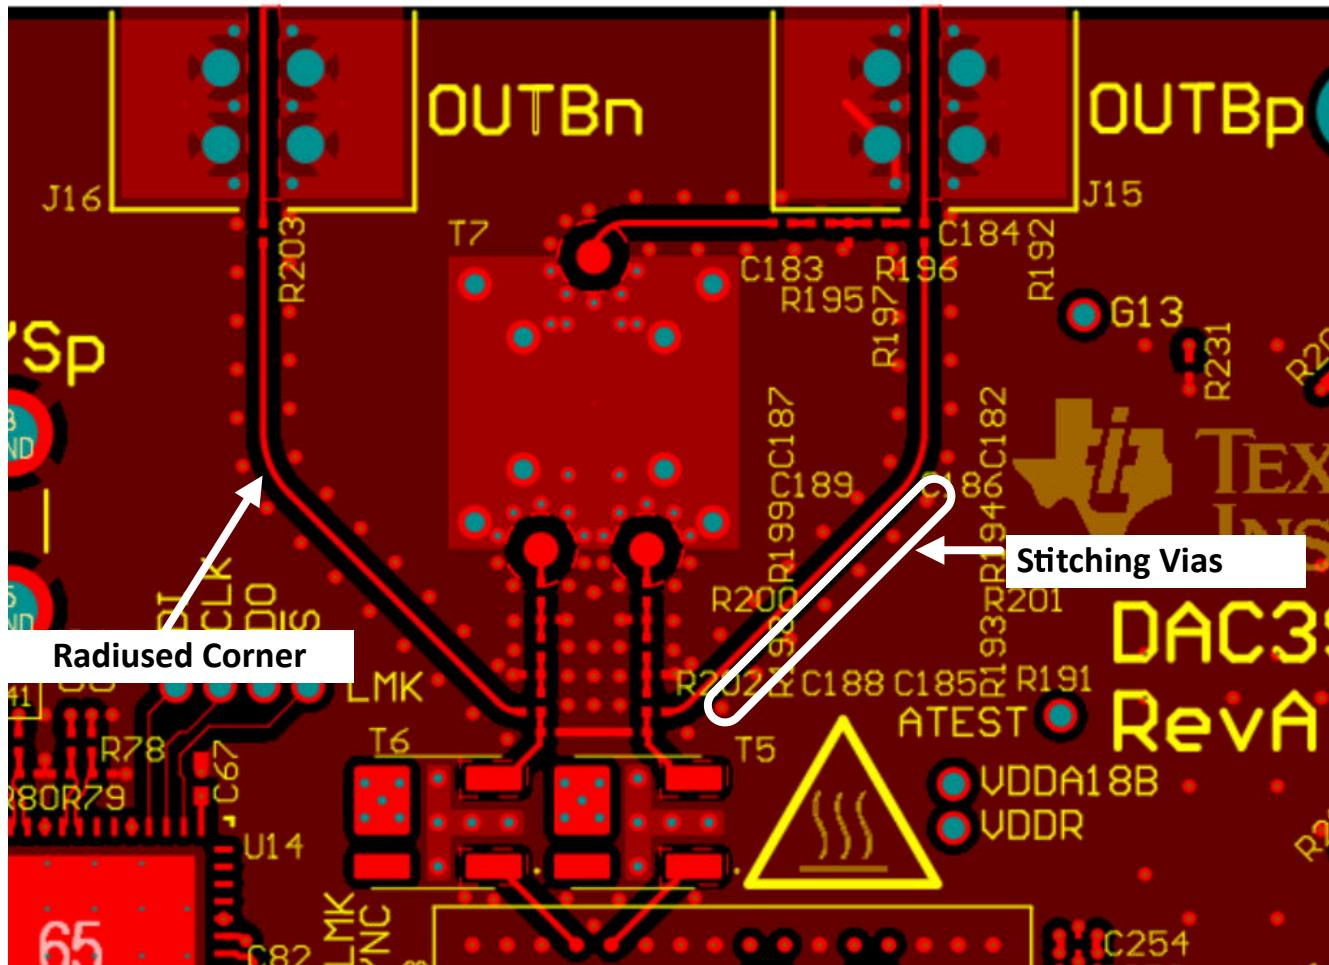

Figure 8-24. Radius Corner and Stitch Vias next to High_Speed Signal Trace
4. Use smoothly radiused corners and avoid 45- or 90-degree bends to reduce impedance mismatches on all high-speed inputs/outputs for both analog and digital signal traces. See Figure 8-24 as an example.
7. Provide symmetrically located ground tie stitching vias adjacent to any high-speed signal at an appropriate spacing as determined by the maximum frequency the trace transports ($\lambda/4$). See Figure 8-24 as an example.